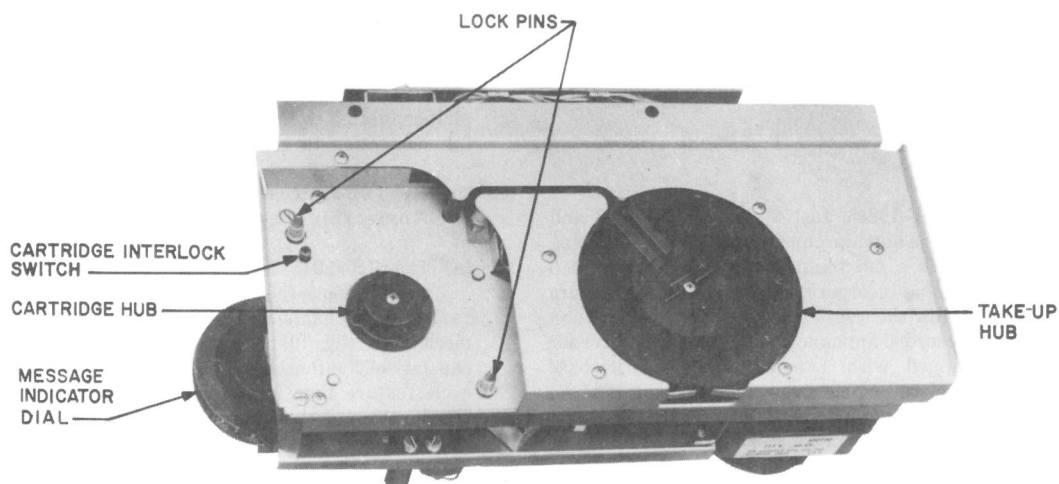
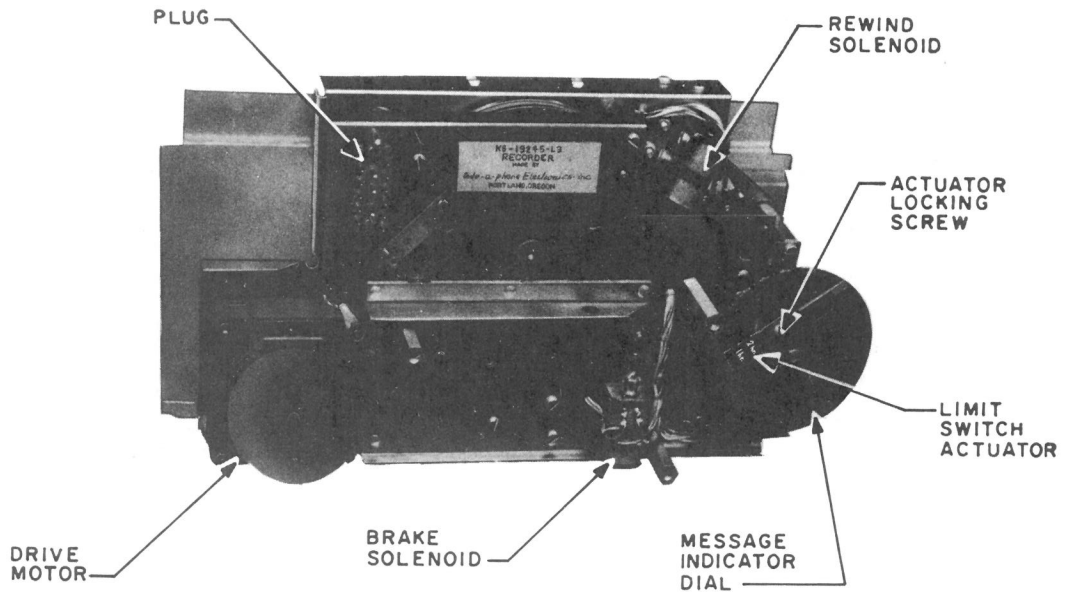

Fig. 5—KS-19245, List 3 Recorder (Reel Side)
Fig. 6—KS-19245, List 3 Recorder (Motor Side)
- (b) The KS-19245, List 3 Recorder (Fig. 5 and 6) is the incoming message recording mechanism. It provides a maximum recording capacity of 2 hours on 1/4-inch wide plastic base magnetic recording tape. This tape is contained in the KS-19245, List 6 cartridge which may be conveniently changed by the customer. Facilities are provided for limiting the message recording time to 1 or 2 hours. This is done by adjusting the limit switch actuator (Fig. 6). The adjustment may only be made by the installer.